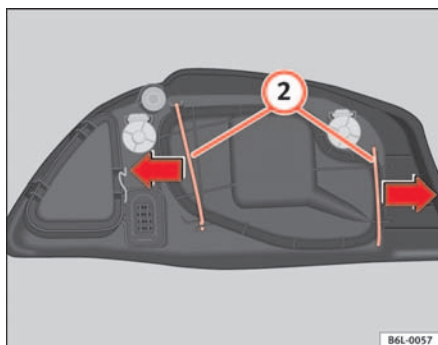

Fig. 140 Dipped headlight lamp
- Remove the loops (2) ⇒ fig. 140 outwards in the direction of the arrow and remove the cover.
- Fit the plastic cover and replace the loops (2) ⇒ fig. 140.